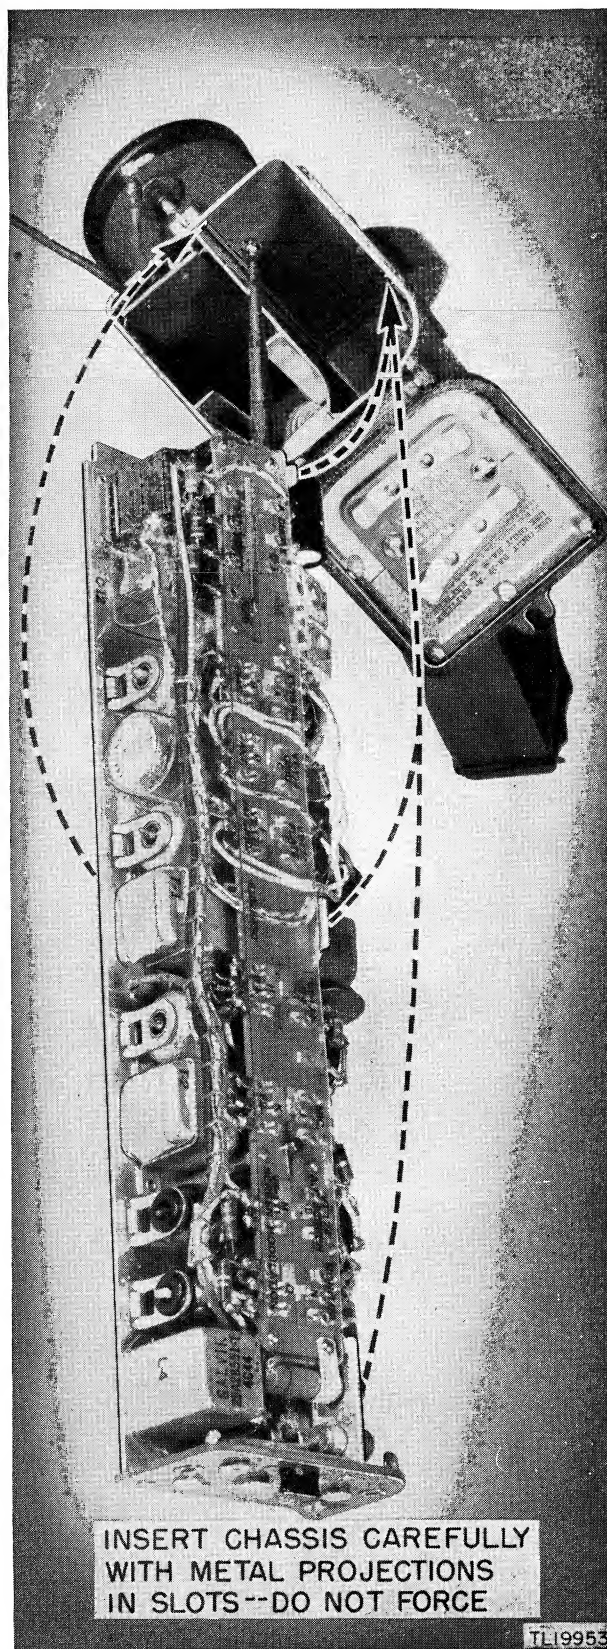

Figure 66. Guides on inside of housing.
b. When inserting the chassis into the housing, the metal projections on the chassis must be aligned with the slotted guides on the inside of the housing. (See fig. 66.) Only slight pressure is necessary if the chassis is correctly inserted, if the guides are free of obstructions, and if the chassis projections are not bent out of line. *Do not force.* Check through the top cover opening to see that alignment is proper.